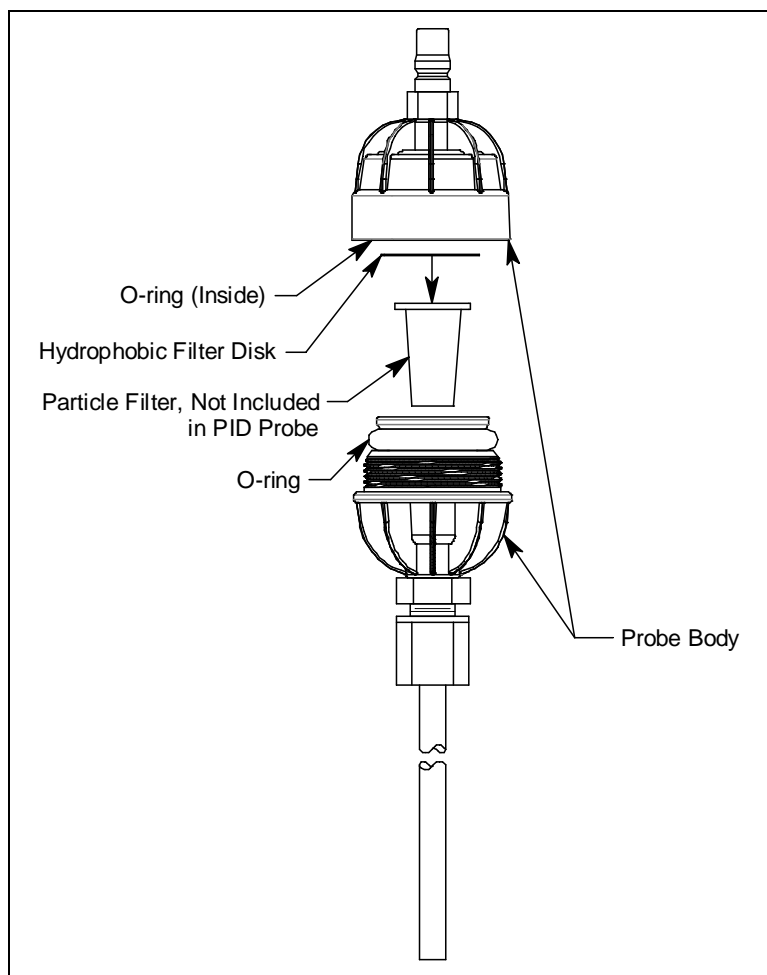

Figure 17: Replacing the Probe's Filters
- Install the probe on the Eagle 3 inlet fitting. Make sure the probe is complete with internal O-ring and membrane and that the two halves of the probe are tightened firmly together to avoid leaks that can affect the calibration. See Figure 17 on page 99 for an illustration of the internal parts of the probe.